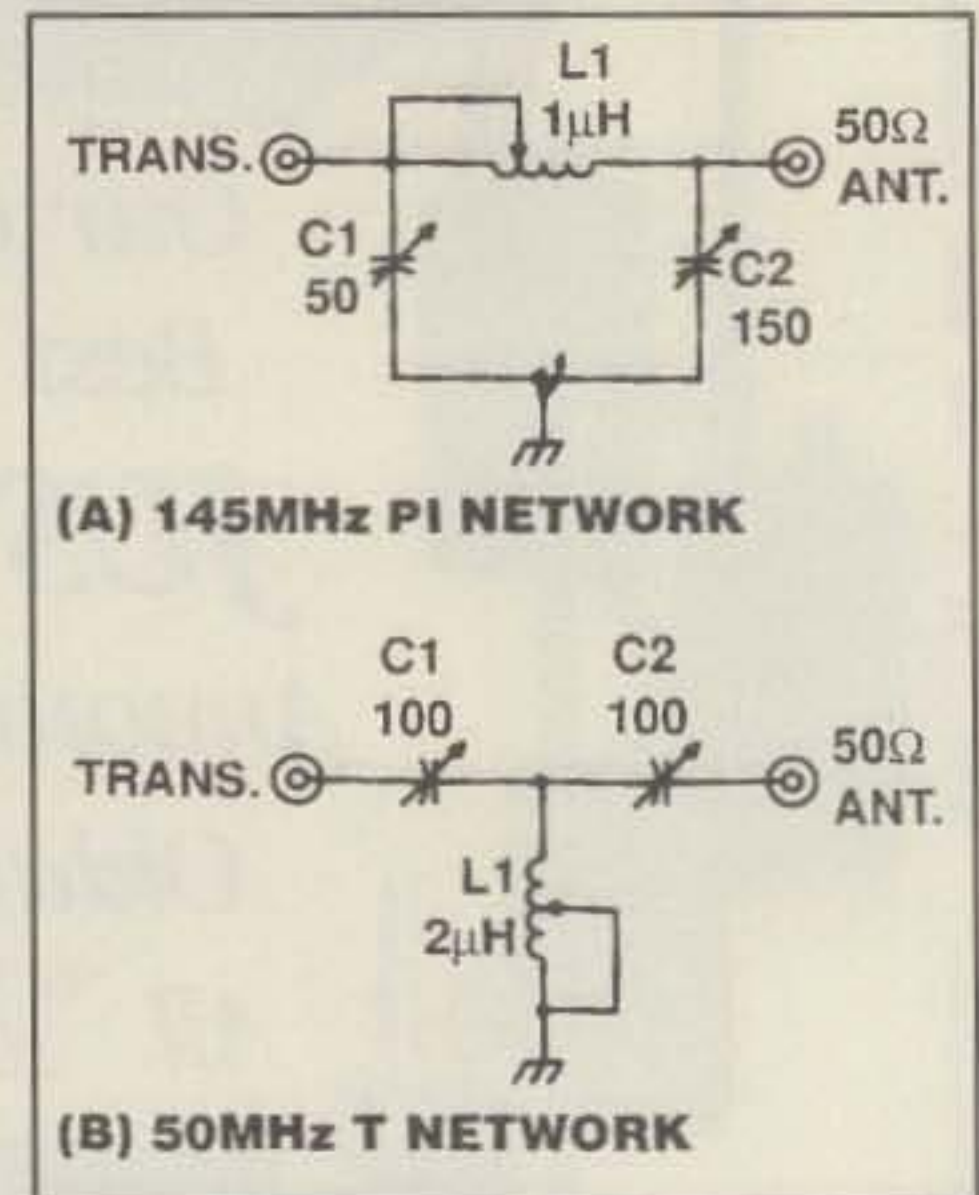

Fig. 2—Examples of pi and T matching networks (see text). Use L2 and L4 dimensions from fig. 3. Add or subtract turns as needed.
Examples of pi and T networks are given in fig. 2. Circuit A is a pi network with a limited
Fig. 2(B) is a T network of the type used in most commercially made tuners. It is an adaptation of the Ultimate Transmatch described by W1ICP some years ago in QST. L1 is a fixed-